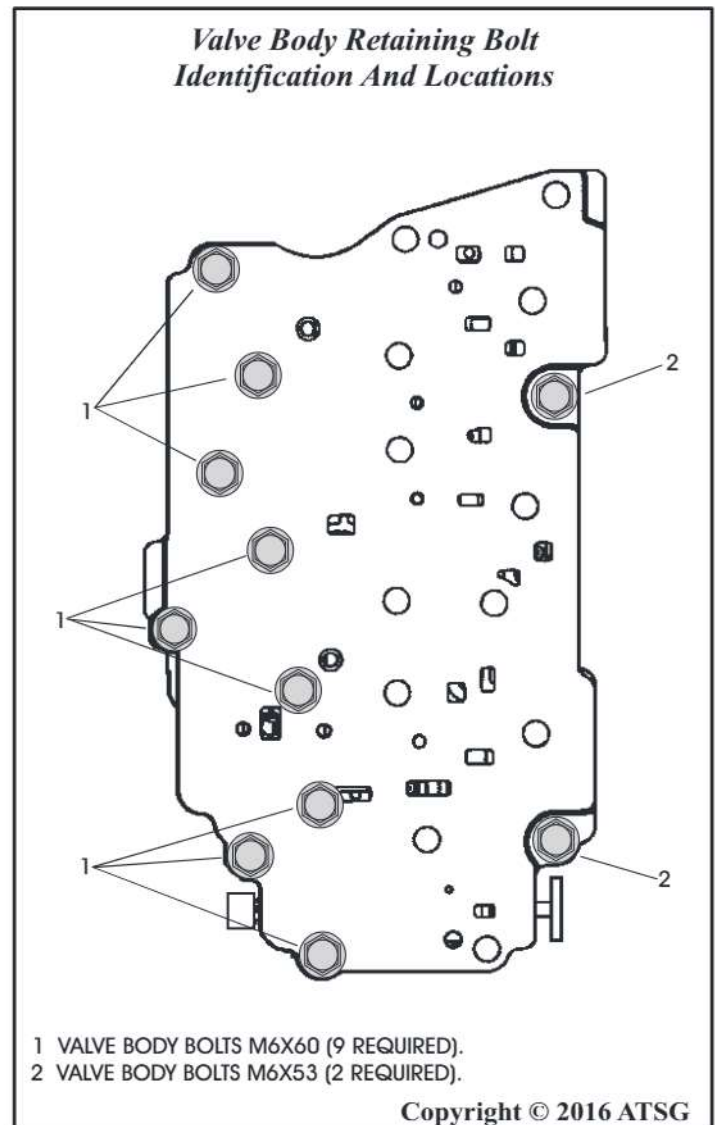

Figure 55
21. Remove only the valve body bolts shown in Figure 55.